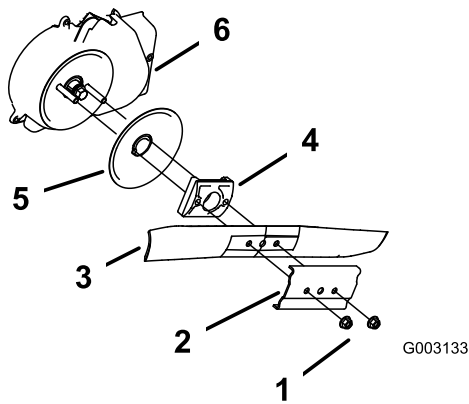

Figure 31
3. Remove the 2 blade nuts and the stiffener (Figure 31).
4. Remove the blade (Figure 31).
5. Remove the blade driver and disk (Figure 31).
6. Remove the blade brake clutch shield (Figure 31).
10. Install the blade and the stiffener that you previously removed (Figure 31).